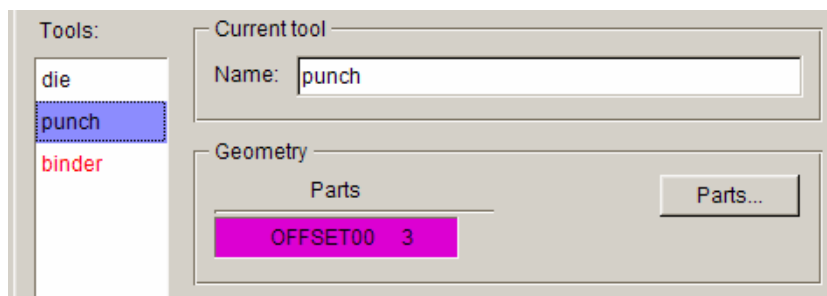

Figure 86: Punch definition page
21. Click **Exit** button to return to the **Tools** definition page illustrated in Figure 86. The tag color of **punch** is changed from red into black indicating the **punch** has been defined.